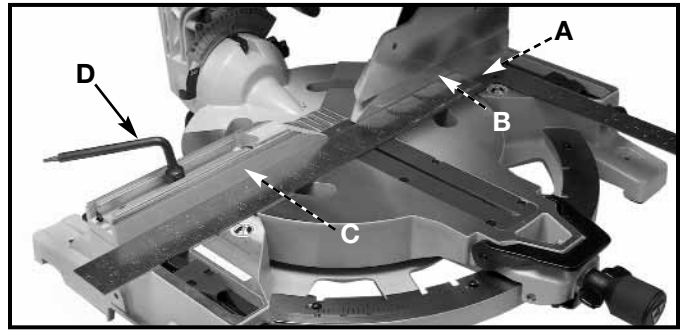

Fig. 18
- Place one end of a framing square (A) Fig. 18 against the front of the right fence base (B) and the other end against the left fence base (C). Using the supplied wrench (D) Fig. 18, loosen the left fence base mounting screws and adjust the left fence base parallel to the right fence base.